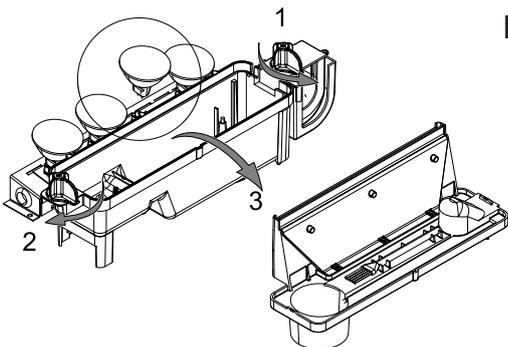

Fig.4
2. It should be possible to view the lamps with the nozzle (See Fig.4) in place and observe which one needs to be changed.
6. Remove the defective lamp, by gently lifting vertically and disengaging the pins from the lamp holder, (See Fig.4 and 4a).
7. Carefully insert the two pins of the new lamp into the two holes in the lamp holder. Push firmly in place. (See Fig.4 and 4a).
7. Release the left sump locking tabs by turning 90°, then lift off the Nozzle. (See Fig.4)